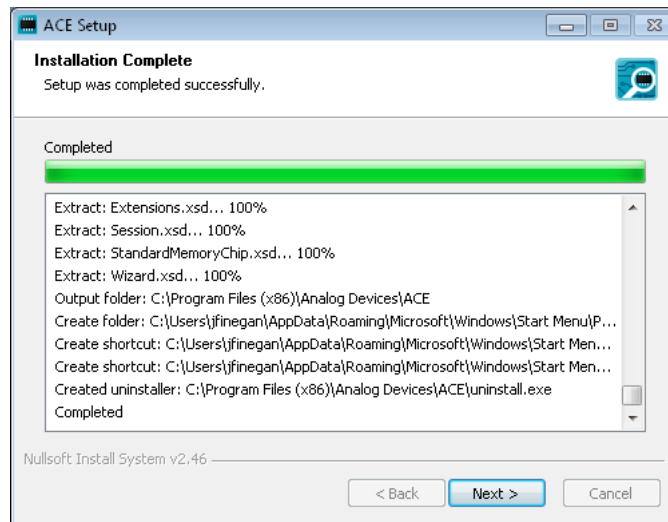

Figure 2.4: ACE Setup Wizard Step 4
Step 4: Installation is run, Figure 2.4. Click “Next” when the installation is complete.